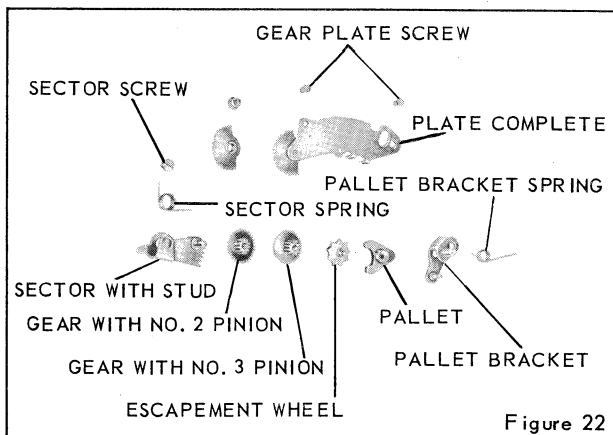

Figure 22
1. Speed control ring, with shutter in tripped position. Be sure the projecting lug on the BULB LEVER ASSEMBLY, figure 21, the studs on the retarding SECTOR WITH STUD, figure 22, and the PALLET BRACKET with stud assembly are resting against the inside edge of the speed control ring and are not underneath the ring.
4. Retard gear PLATE COMPLETE, figure 22.